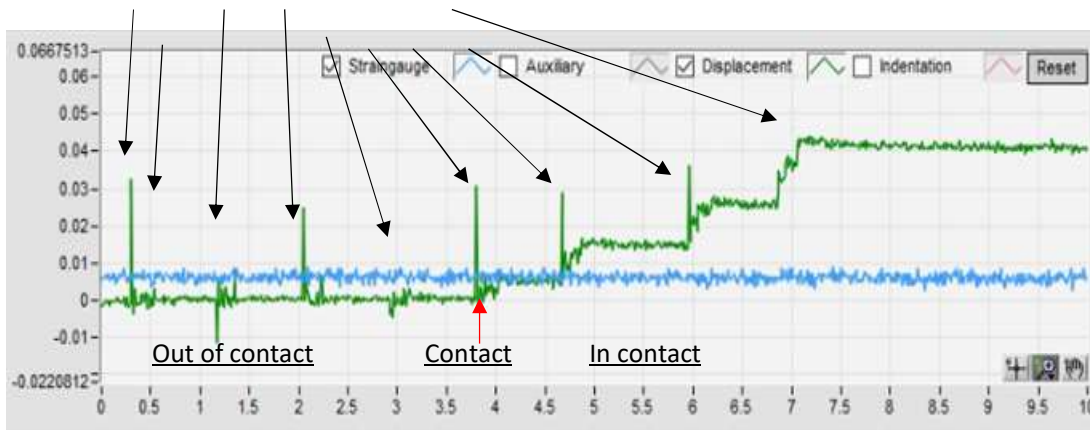

Figure 16 Manual finding of the surface position by pressing down the probe stage at $1\ \mu\text{m}$ steps.
12. Check piezo and cantilever signals move simultaneously in the live signal window, as shown in Figure 16 B (on the top). If there is a mismatch in time (Figure 16 B, on the bottom), the probe is close to contact but not entirely in contact with the surface. Manually move down the probe with steps of 1 μm until you see that the baseline of the cantilever signal has changed. If the cantilever signal does not change at all during calibration, the probe is far from the sample. Repeat the procedure from the 'Find Surface' step.
13. When calibration is completed, 'New factor' is given. By pressing 'Use new factor' the software automatically saves the new 'Calibration factor' in the probe configuration menu. The calibration factor should be ~1.33 times lower in the medium than it is in the air which is given on the box of the probe, e.g. if the number on the box is 3.2, then the geometrical factor in the medium should be $3.2 \div 1.33 \approx 2.4$. When repeating geometrical factor calibration, only a slight variation is expected < 5%. You can also check in Load-Indentation data that loading and unloading data overlap and are straight slopes (Figure 16 D). The slight mismatch is expected due to drift and hysteresis in piezo movement. **If calibration has failed, check the troubleshooting section in this manual.**